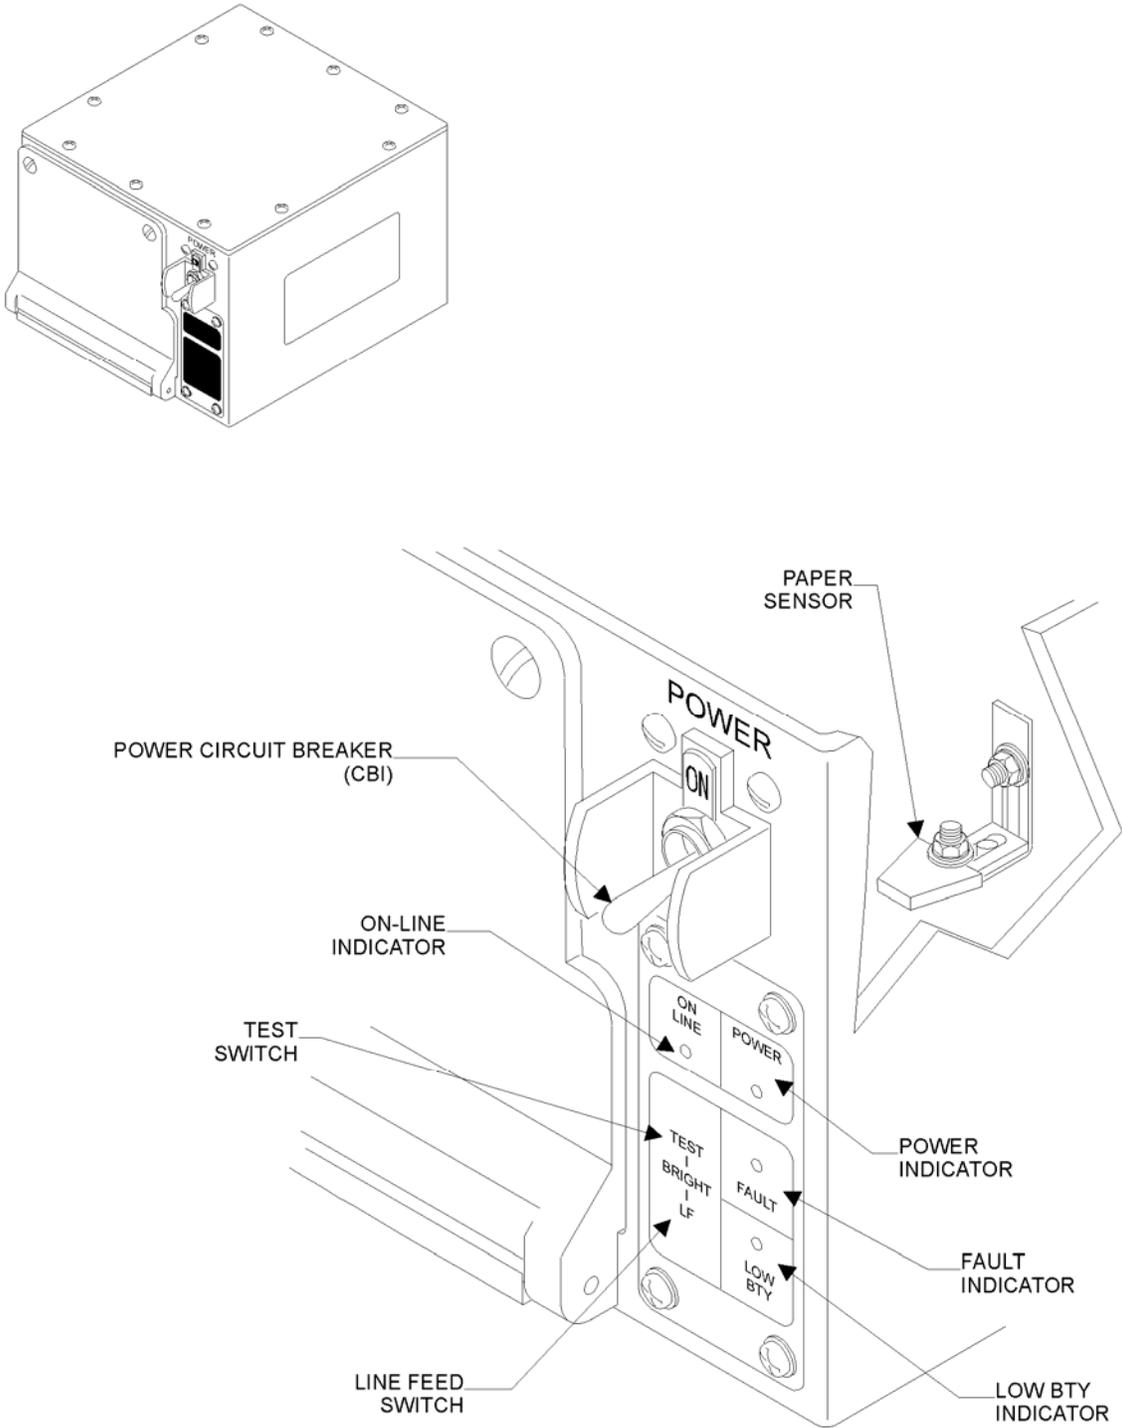

Figure 4-1. Controls and Indicators
All the switch/lights required for printer operation are on the control panel (Figure 4-1). Switch/lights are pressed to activate, and light to indicate activation. The switch-lights are SELF TEST and LINE FEED (LF). Table 4-1 describes the switch/indicators.
One nonoperator-controlled switch is contained in the printer (Figure 4-1). The nonoperator-controlled function of circuit breaker CB1 (switch) is to automatically deactivate input voltage to protect against power overloads. The switch is manually set to ON position to apply power to the printer. Refer to Table 4-1.
- Step 2. Set circuit breaker CB1 (Figure 4-1) to ON position.
- Step 3. Observe that POWER indicator (Figure 4-1) illuminates and printer performs built-in test (BIT ) (approximately 1 minute). The printer will perform the following sequence of events:
- Step 1. Press LINE FEED (LF) switch-light (Figure 4-1) with power turned on (paragraph 4-4.1) and printer loaded with paper (paragraph 4-3.1).
- Step 2. Paper will advance continuously until LINE FEED (LF) switch-light is released.